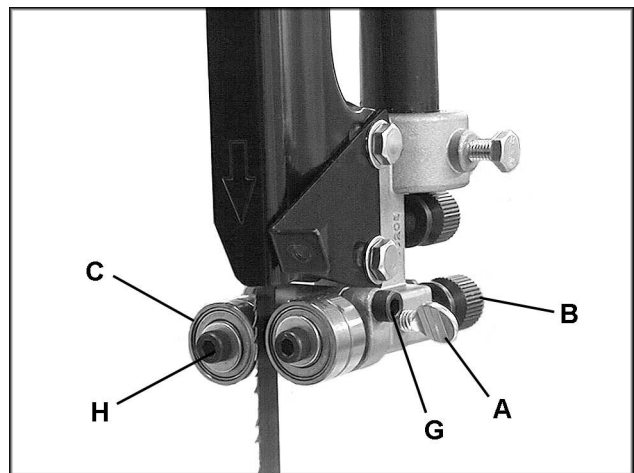

Fig. 27
3. Loosen thumb screw (A, Fig. 27) and move guide block by turning knob (B, Fig. 27) so that the front of the guide wheels (C, Fig. 27) are just behind the gullet (curved area at base of tooth) of the blade.
4. Tighten thumb screw (A, Fig. 27).
7. Loosen the cap screw (G, Fig. 27) and turn the screw on each guide wheel (H, Fig. 27) to move the guide wheels 1/64" from the blade. Tighten cap screw (G, Fig. 27) when finished.
7. Loosen the cap screw (G, Fig. 27) and turn the screw on each guide wheel (H, Fig. 27) to move the guide wheels approximately 1/64" from the blade. Tighten cap screw (G, Fig. 27) when finished.